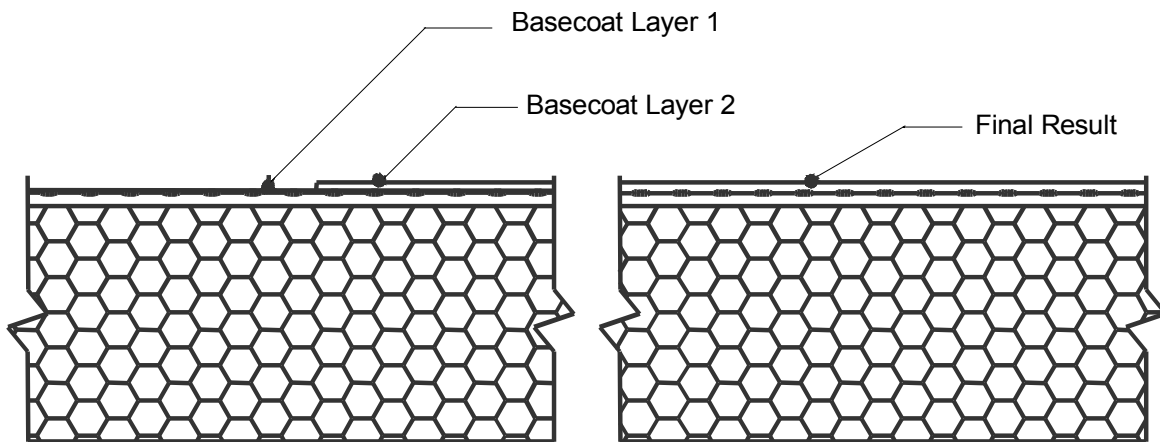

Figure No. 3
- b. The base coat shall be applied such that the resulting overall minimum base coat thickness is sufficient to **fully embed** the reinforcing mesh. The recommended method is to apply the base coat in two (2) passes.
- 3) Allow the base coat mixture to take up until firm to the touch. Trowel a second tight coat of the base coat mixture over the first coat to **fully cover** the reinforcing mesh (see Figure No. 3 below). The result should be such that the reinforcing mesh is approximately centered within the base coat thickness. Do not allow the first pass to completely dry prior to the second pass application or an excessive amount of base coat mixture will be necessary to fully coat the wall surface.